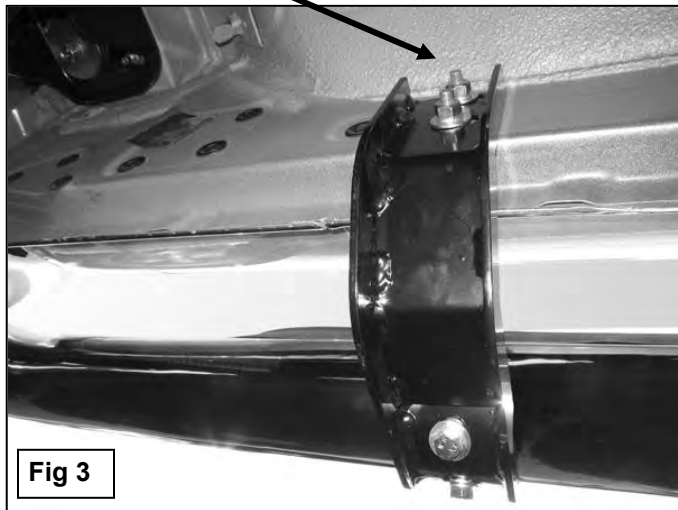

Fig 3
4. Repeat **Step 3** for the driver side center and rear Mounting Bracket installation, **(Figure 3)**.
5. Carefully place the driver Sidebar onto the (3) Mounting Brackets. Attach the Sidebar to the Brackets with the included (6) 8 x 25mm Combo Bolts. Do not tighten at this time.